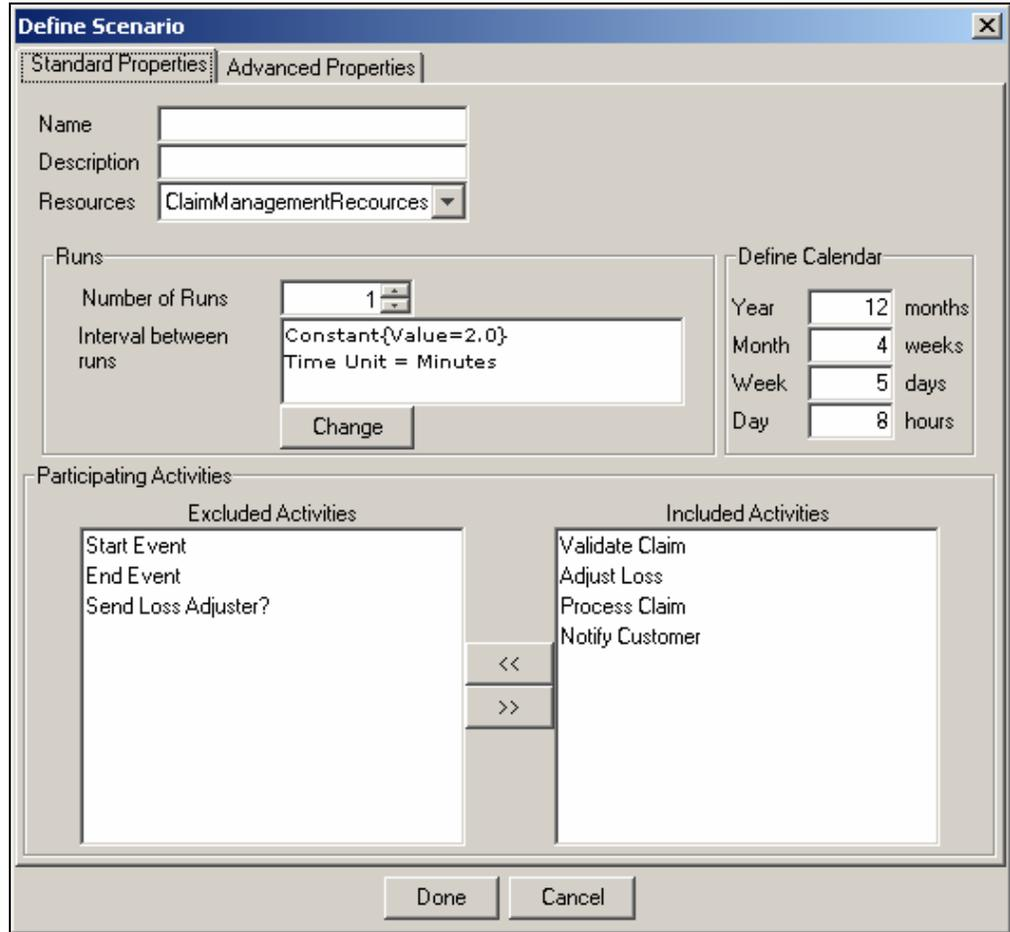

Figure 10.7: Create New Scenario
1. In the Process Simulator applet, click **Create New Scenario** () icon. The Define Scenario dialog box appears (see Figure 10.7).